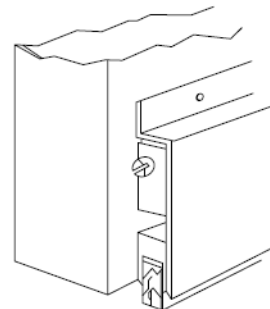

FIGURE 20b
2. Surface Door Bottoms, Figure 20b, are mounted to the surface of the door.